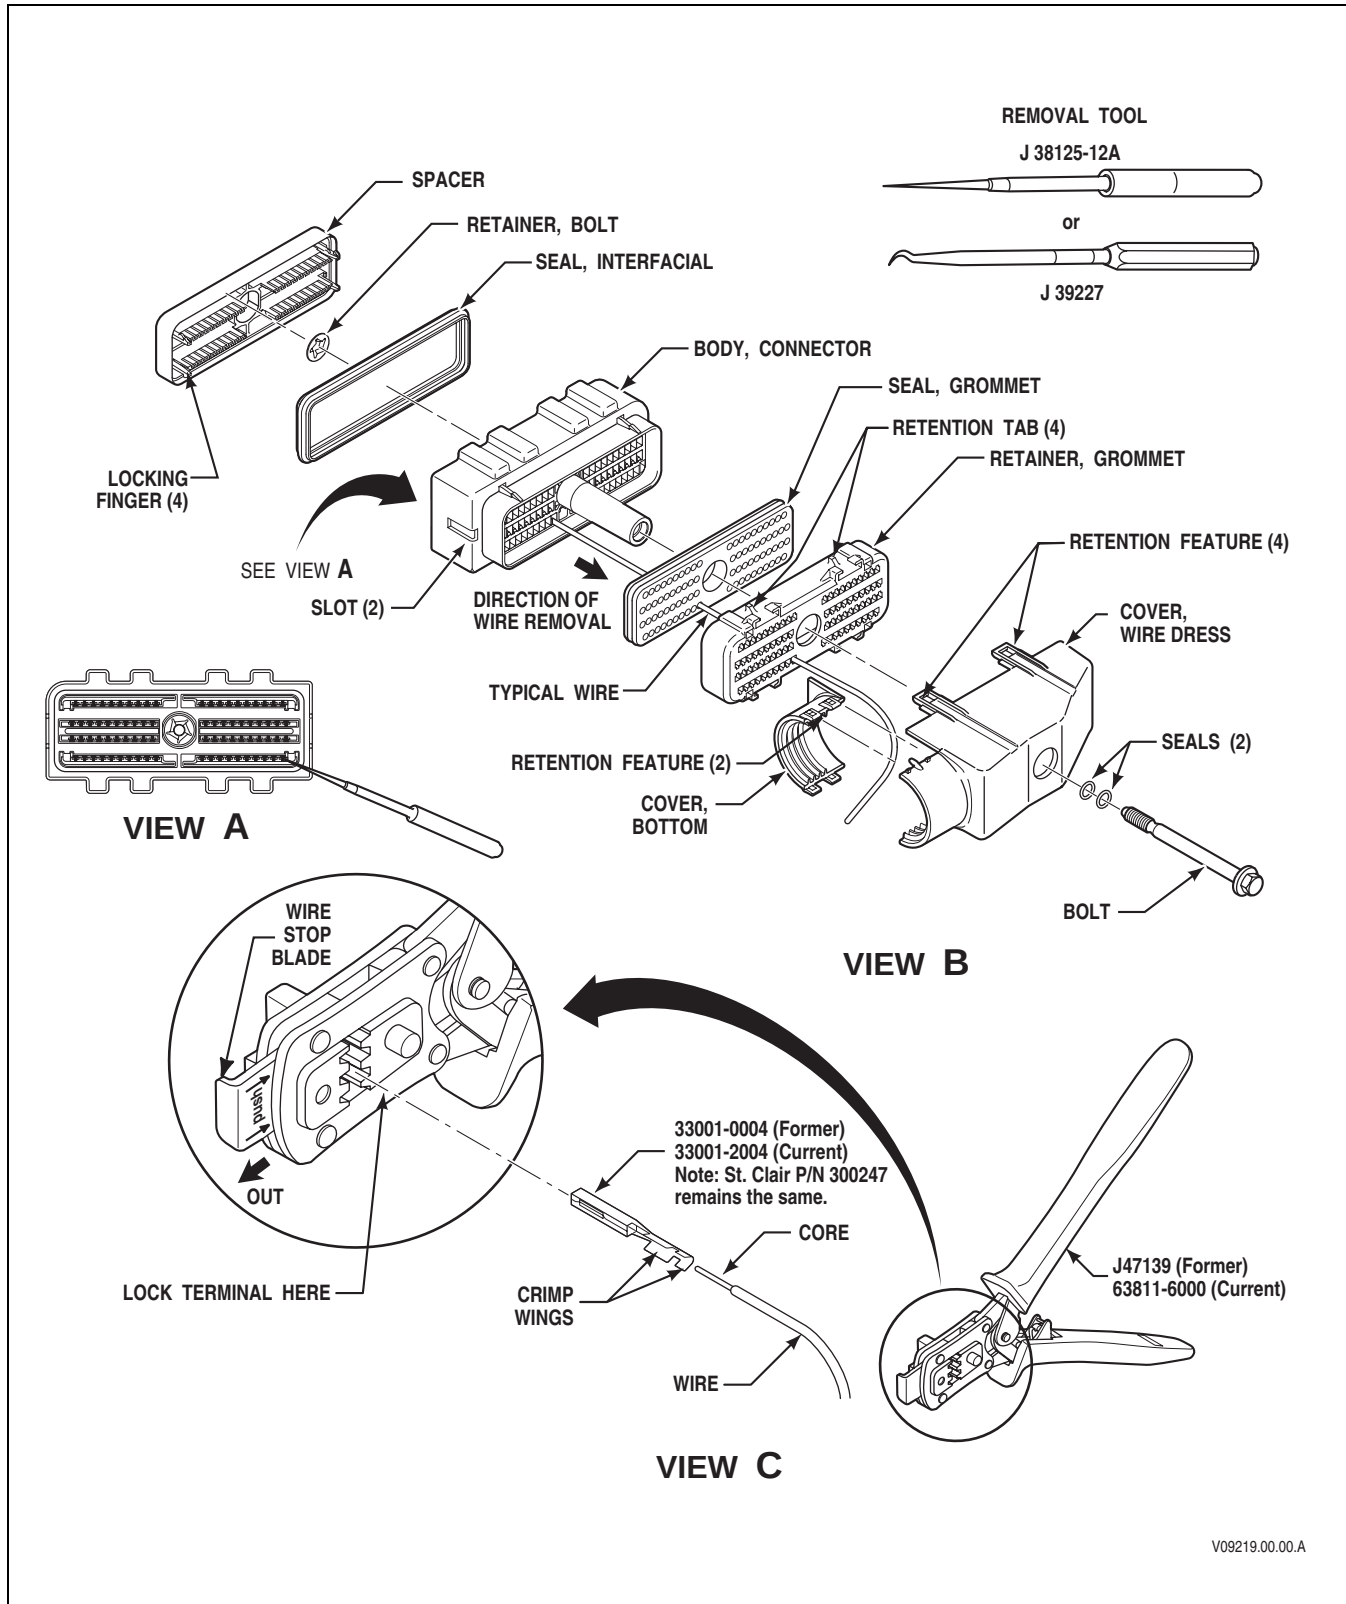

Figure E-1C. AFL 80F Bolt-Assist, Direction 'B' 90 Degree TCM Connector
C. TCM Connector, Assembly 80F Bolt Assist, Direction 'B' 90 Degree Wire Dress (refer to Figure E-1C)